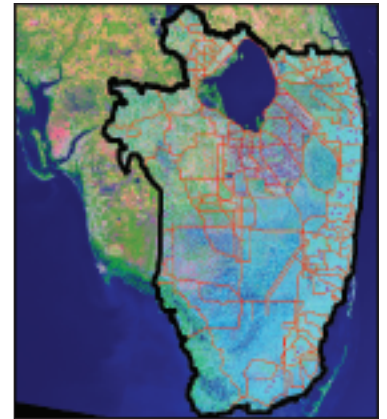

Figure 1
1. The Domain (Fig. 1) will include the Lake Okeechobee Service area, the Caloosahatchee basin in the west (down to S-79), the St Lucie Basin in the east (down to S-80) and natural, agriculture and urban areas south and east of Lake Okeechobee including Everglades National Park.